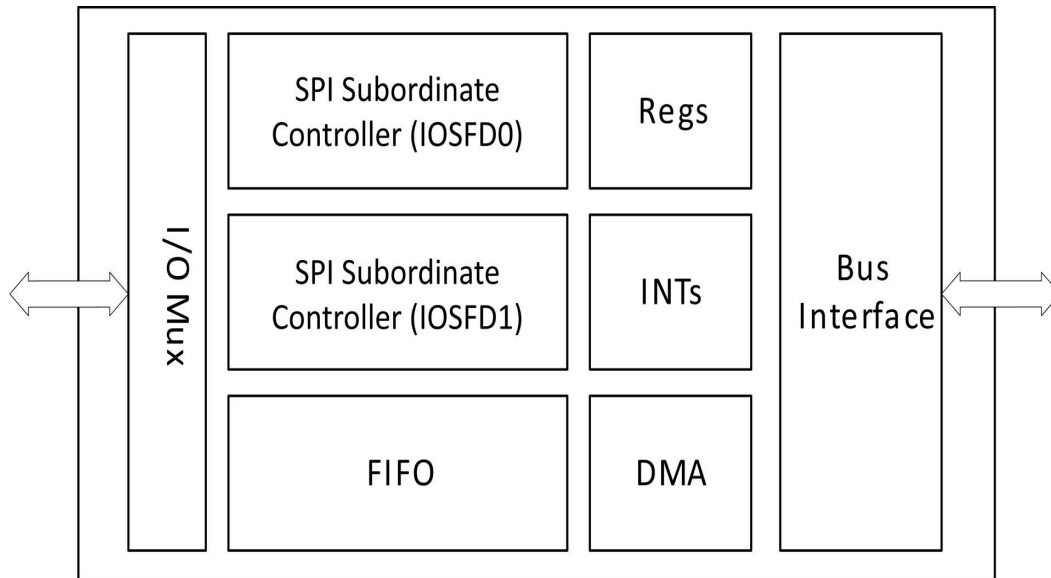

**Figure 33. Full Duplex IOS SPI Subordinate Controller Pair (IOSFD0 / IOSFD1)**
The Apollo510 SoC includes two instances of the Full Duplex SPI Subordinate and both instances are designed to work in tandem to enable full duplex (FD) operation. Features of the controller pair are shown in Figure 33 and listed below.